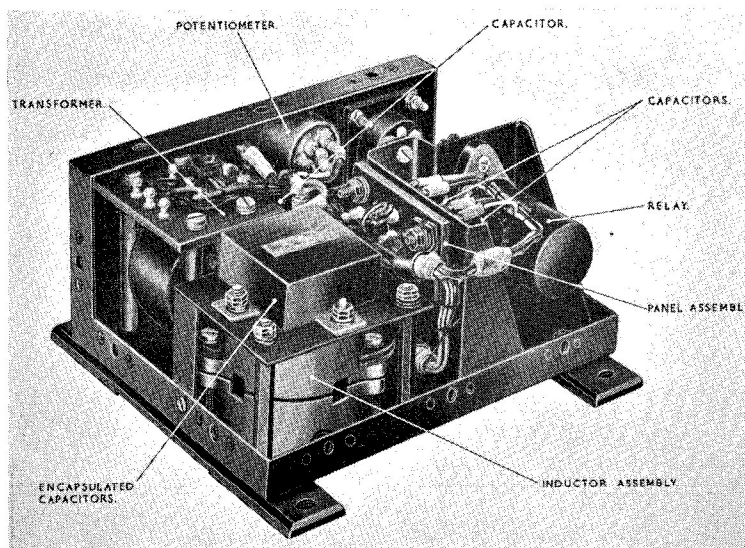

Fig. 2. General view
4. The pick-up box consists of the following sub-assemblies and components, the layout of which can be seen in the general view showing the components, fig. 2.